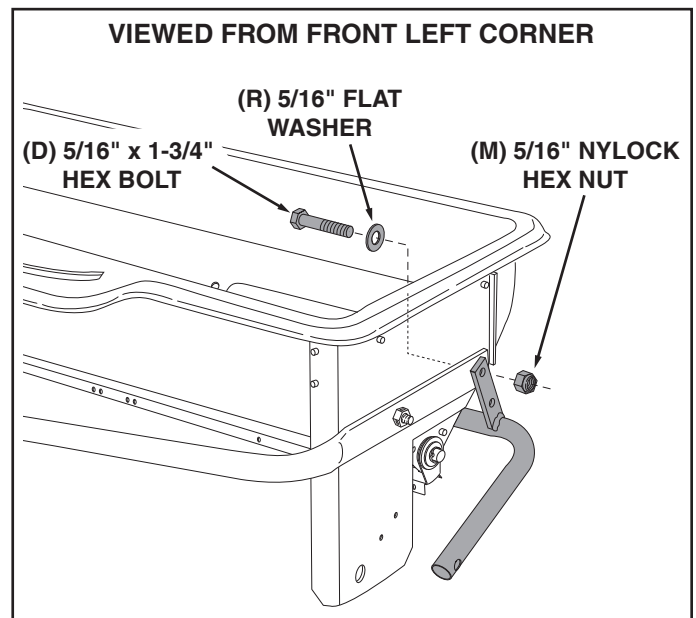

FIGURE 3
7. On the left side, insert a 5/16" x 1-3/4" hex bolt through a 5/16" flat washer and then through the rear hole in the hopper and the hitch tube. Assemble the transport tube onto the bolt and secure it with a 5/16" nylock hex nut. **Do not tighten yet.** See figure 3.